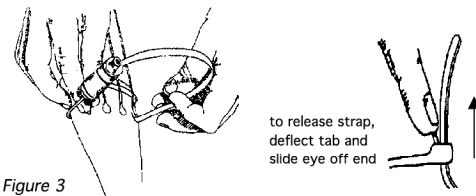

Figure 3
**MOUNTING THE OUTPUT JACK:** (Refer to figures 3 and 4.) Route the output wire under the strings behind the tailpiece. Insert the nylon strap ends in the string holes so the output jack lies across the tailpiece at the stringholes. You may place it on the back of the tailpiece if you wish, wherever convenient to avoid conflict with other accessories such as a bow quiver. Insert the small end of the nylon strap into the eye of the buckle end. Note the small release tab in the eye of the buckle. This tab should be against the ribbed side of the small end of the strap and ratchets as the strap is pulled tight. Do not trim the end of the strap if you expect to remove and re-install the pickup. **VERY IMPORTANT!** Choose a patch cord that has low capacitance and low noise characteristics. Some standard guitar cables, especially the coiled or spiral types, may not perform well due to high capacitance. Ball tip plugs, such as the Switchcraft 470, are recommended as they fit the Switchcraft jack of the Underwood. Some plugs may be too loose and cause static or buzzes due to intermittent contact.